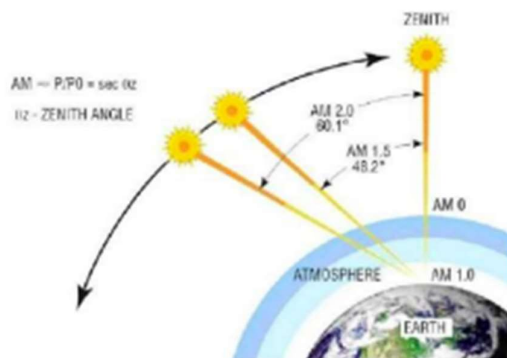

Fig. 2.13: Air Mass
10. **Air mass (AM):** The Air Mass is the path length that light takes through the atmosphere, normalised to the shortest possible path length (that is, when the sun is directly overhead) as shown in Fig. 2.13. The Air Mass measures the reduction in the power of light as it passes through the atmosphere and is absorbed by air and dust. In simple terms, it is defined as the distance travelled by solar radiation in Earth's atmosphere.